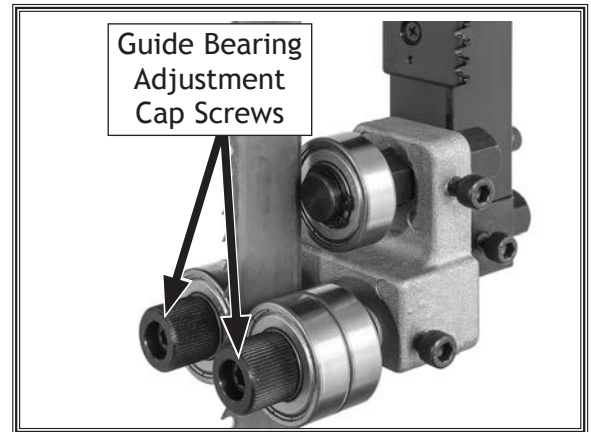

Figure 56. Location of upper guide bearing adjustment cap screws (guide post cover removed for clarity).
- Loosen both guide bearing adjustment cap screws (see Figure 56), then position guide bearings so they are close to—but not quite touching—sides of blade.